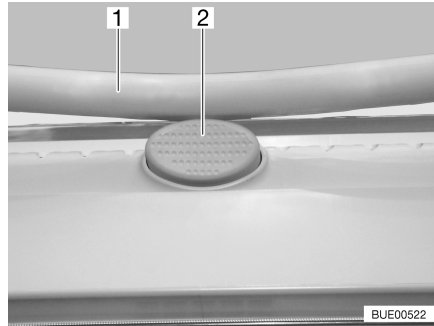

Fig. 20 Safety knob on the hinged skylight
- Press the safety knob (Fig. 20,2) and pull the bar (Fig. 20,1) down with both hands.
- Push the bar upwards with both hands until it is above the safety knob (Fig. 20,2).